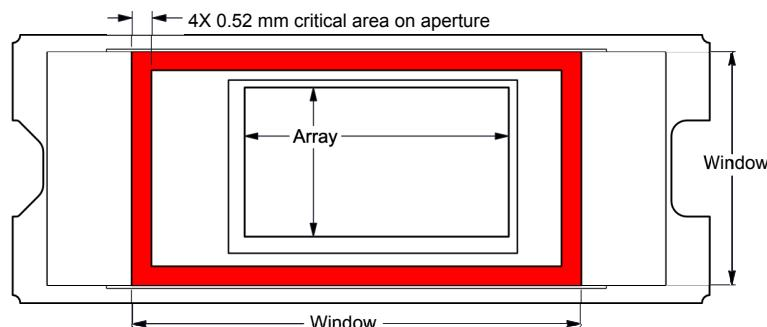

图 6-1. Illumination Overfill Diagram - Critical Area
- (16) The average over time (including storage and operating) that the device is not in the elevated dew point temperature range.
- (17) Exposure to dew point temperatures in the elevated range during storage and operation should be limited to less than a total cumulative time of C_T_{ELR}.
- (18) The maximum marginal ray angle of the incoming illumination light at any point in the micromirror array, including Pond of Micromirrors (POM), should not exceed 55 degrees from the normal to the device array plane. The device window aperture has not necessarily been designed to allow incoming light at higher maximum angles to pass to the micromirrors, and the device performance has not been tested nor qualified at angles exceeding this. Illumination light exceeding this angle outside the micromirror array (including POM) will contribute to thermal limitations described in this document, and may negatively affect lifetime.
- (19) The active area of the device is surrounded by an aperture on the inside of the DMD window surface that masks structures of the DMD device assembly from normal view. The window aperture is sized to anticipate several optical operating conditions. Overfill light directly illuminating the window aperture can create adverse imaging effects, and additional device heating leading to reduced device lifetime. Direct incident illumination should be prevented from striking the DMD window aperture.
- (20) Applies to the region in red in 图 6-1, at the inside plane of the glass window where the physical aperture is located.